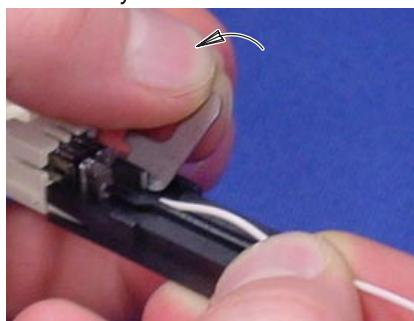

Figure 6
4. While lightly holding the fiber in place, **SLOWLY** rotate the key handle 90° (one-quarter turn) toward the outside of the jack. See Figure 6, Detail B. With the key in this position, the fiber hole is "open."